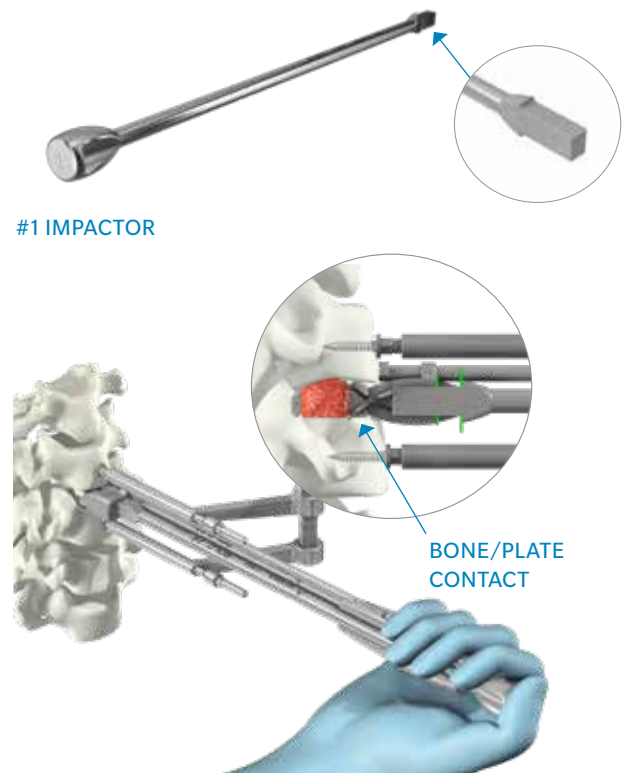

Figure 13
- Using thumb pressure, insert the #1 impactor (MC9092R) to advance the first plate until it touches bone (Figure 13). Take a lateral radiographic image to verify the plate is touching the bone.